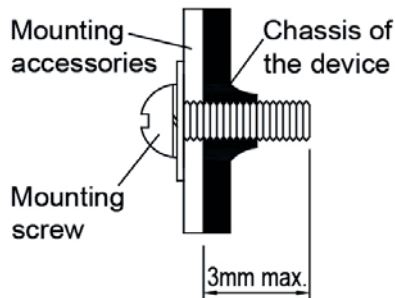

**Fig. 3 Assembly Reference**
- **PM□-15V50W1AA / PM□-15V50W1AG:** Use flexible cable (stranded or solid) of AWG No. 22-12. User should calculate and select the suitable wire specification (type/quantity/diameter) according to actual output current. The torque at the Connector shall not exceed 13Kgf.cm. The insulation stripping length should not exceed 0.275" or 7mm (Refer to Fig. 3).